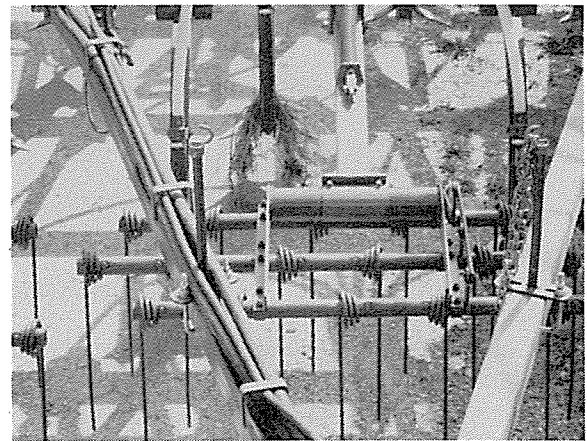

Figure 20
- (m) Run the Hydraulic lines (if any) along the L.H. Hitch Pole. (See Fig. 20).